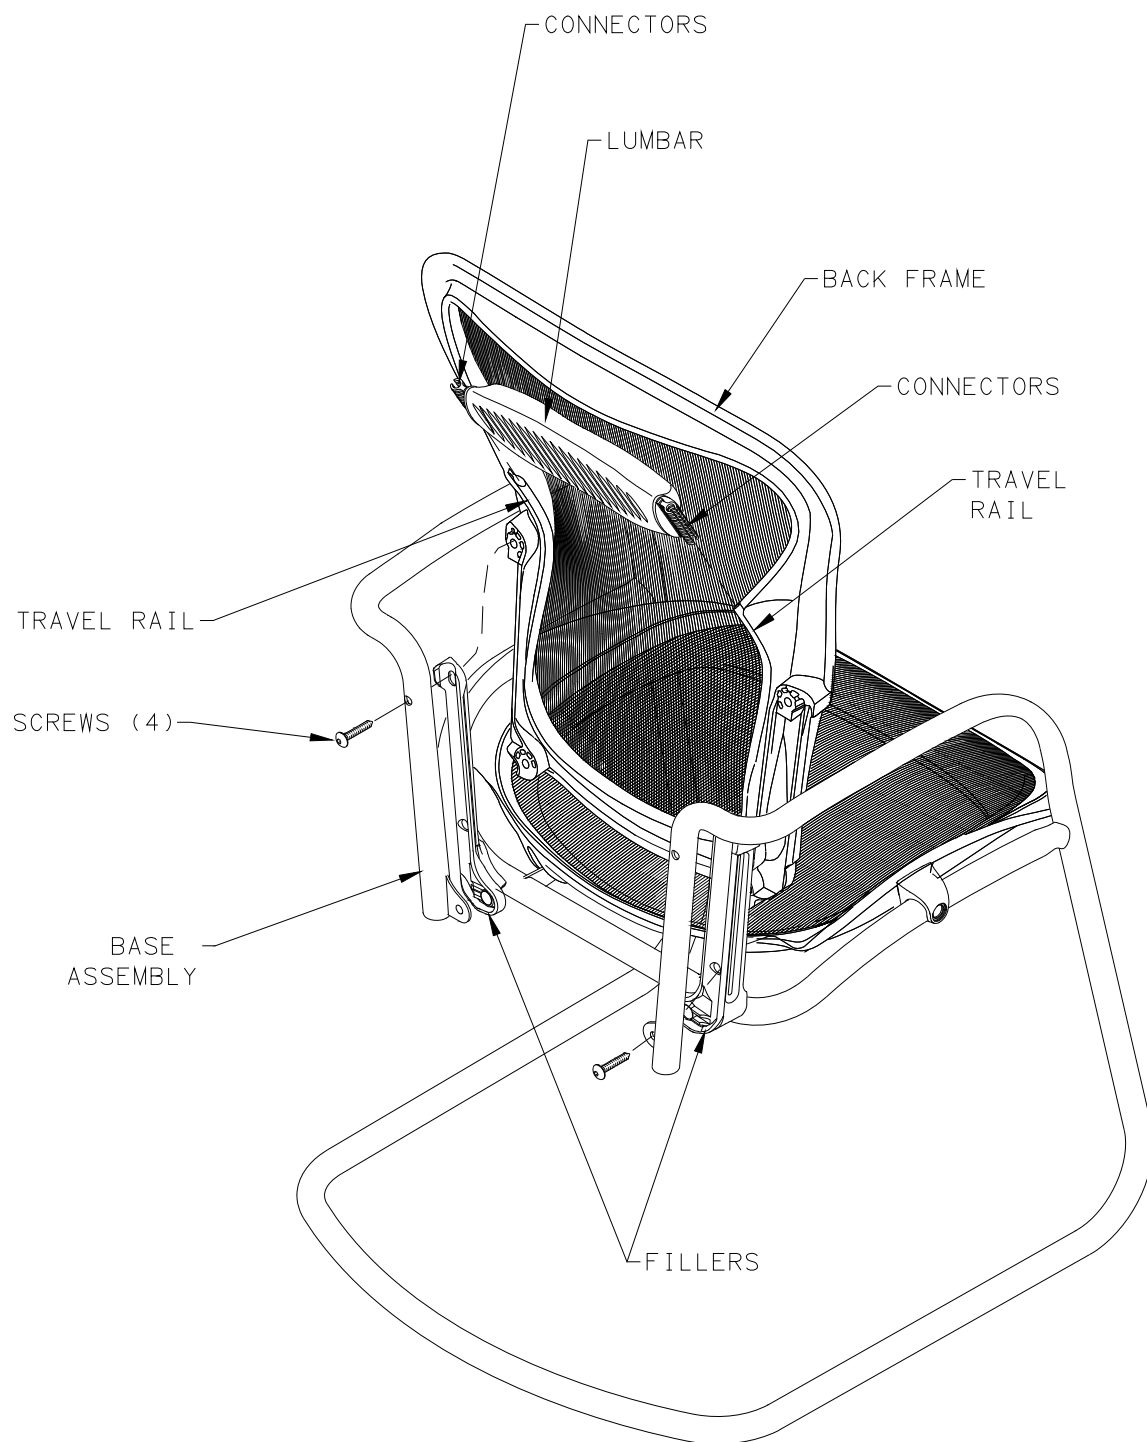

FIGURE 2
3. IF CHAIR IS EQUIPPED WITH LUMBAR, REMOVE LUMBAR FROM BACK FRAME BY SLIDING CONNECTORS OF LUMBAR OFF TRAVEL RAILS OF BACK FRAME. SET LUMBAR ASIDE. SEE FIGURE 2.
4. WHILE SUPPORTING BACK FRAME, USE RATCHET WRENCH AND 5MM HEX BIT TO REMOVE (4) SCREWS ATTACHING BACK FRAME TO BASE ASSEMBLY. SET ASIDE SCREWS. REMOVE BACK FRAME AND SET ASIDE. REMOVE LEFT AND RIGHT HAND FILLERS AND SET ASIDE. SEE FIGURE 2.
6. PLACE LEFT AND RIGHT HAND FILLERS ON REPLACEMENT BASE, ALIGNING HOLES. PLACE BACK FRAME UP TO BASE ALIGNING HOLES. SECURE WITH SCREWS. TIGHTEN AND TORQUE SCREWS TO 70-100 IN-LB. SEE FIGURE 2.
7. IF CHAIR IS EQUIPPED WITH LUMBAR, ATTACH LUMBAR TO BACK FRAME BY ENGAGING EACH CONNECTOR ON LUMBAR TO TRAVEL RAILS OF BACK FRAME AND SLIDING DOWN. SEE FIGURE 2.